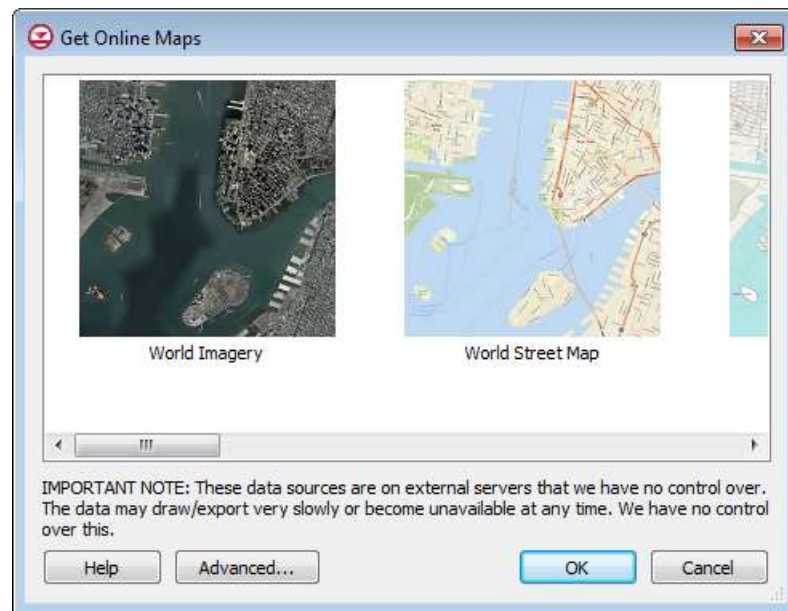

Figure 14 Get Online Maps dialog
5. Click **OK** to close the *Virtual Earth Map Locator* dialog and open the *Get Online Maps* dialog (Figure 14).